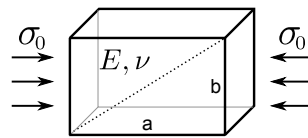

Figure 1: Box under uniaxial compression.
1. Consider a 3D rectangular box, subject to uniaxial stress σ_0 in the z direction, as shown in Fig. 1. The faces in the x, y directions are traction-free. The rest-lengths of the boxes sides are a, b . Calculate the slope of the dashed line as a function of σ_0, E and ν . When $\sigma_0 \geq E$ something weird happens. Is linear elasticity wrong?